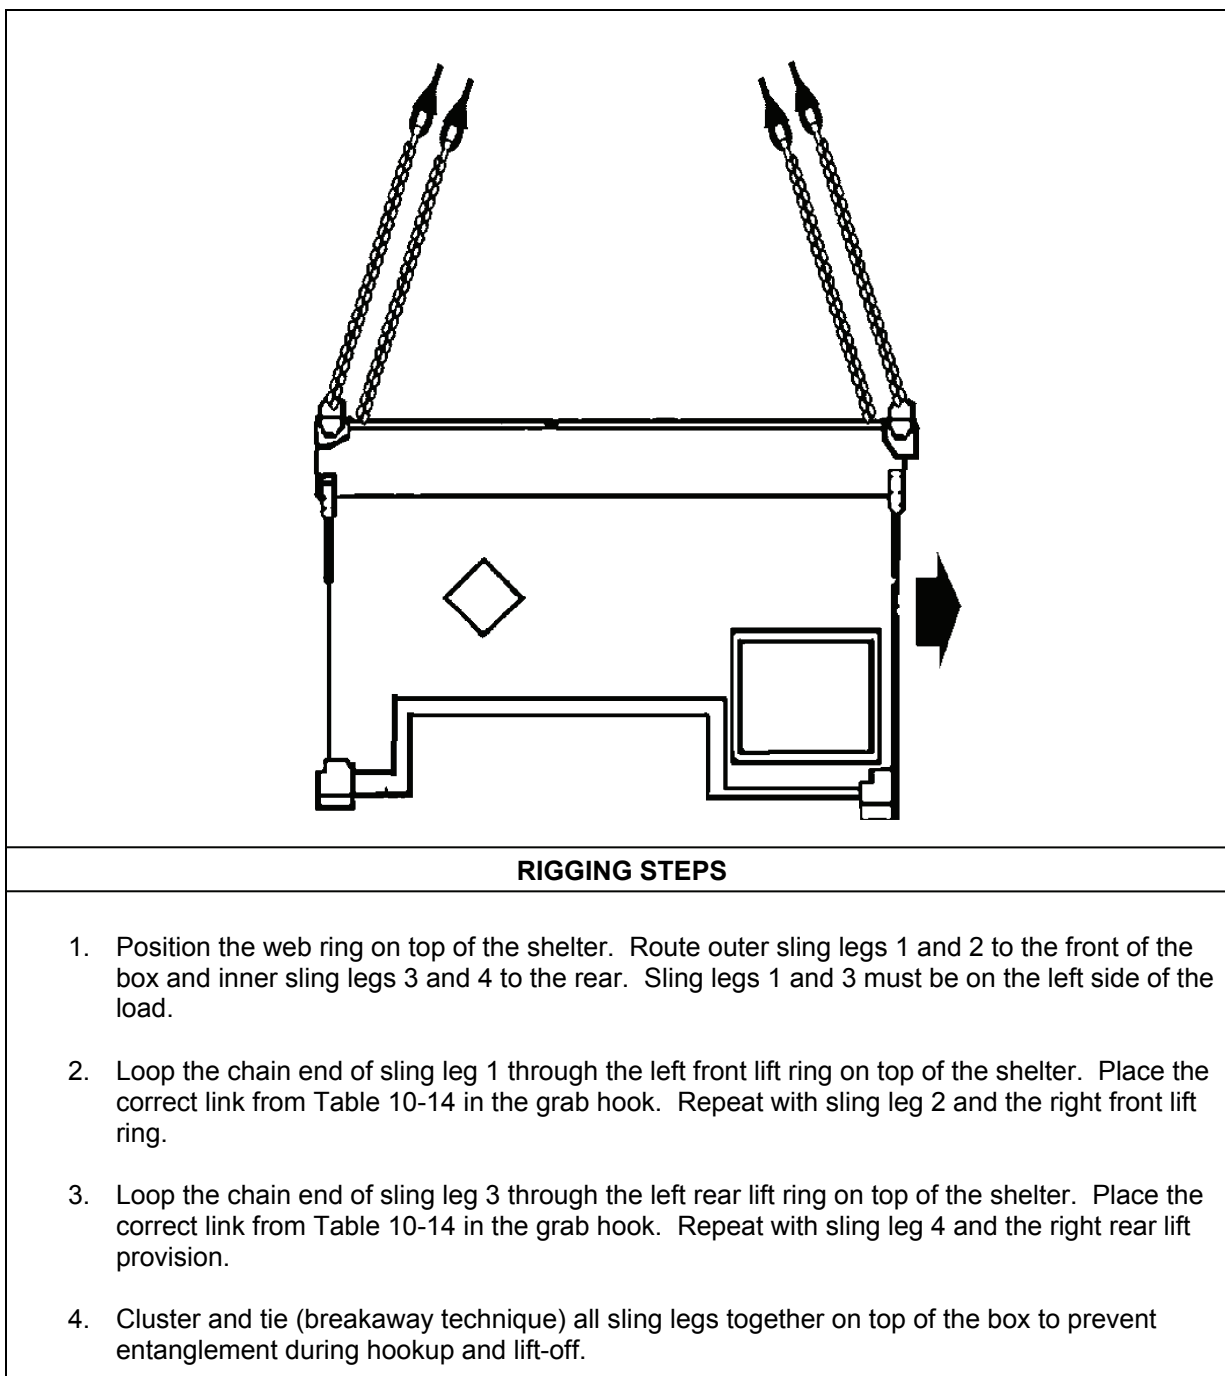

Figure 10-14. Petroleum Quality Analysis System Shelter
- **Rigging.** Rig the load according to the steps in Figure 10-14.